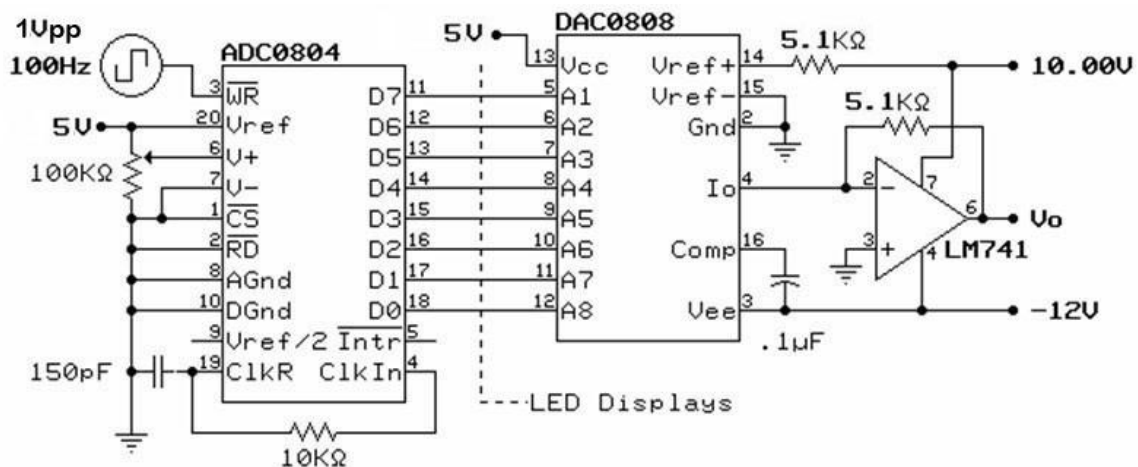
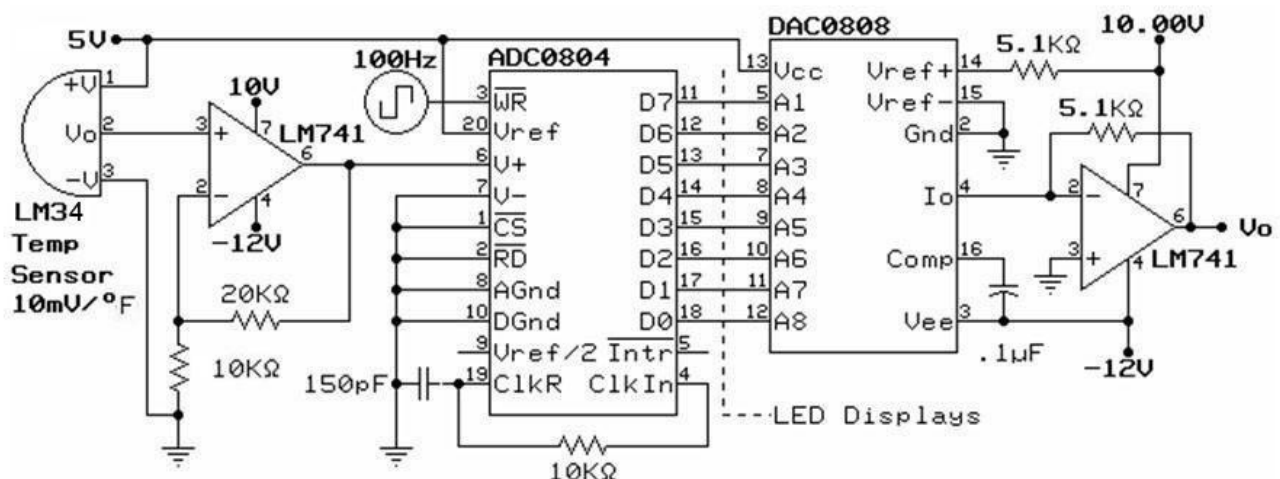

Fig. 10.1: Circuit Diagram for Digital to Analog Conversion.
Fig. 10.2: Temperature Sensing Circuit to interface DAC converter with Op-amp.
Figure10.2. illustrates the replacement of the 100K potentiometer with an LM34 temperature sensor and an operational amplifier as the voltage source for the A/D converter. The LM34 temperature sensor generates a voltage output equal to 10mV per degree Fahrenheit with an error of less than .1 degrees. Consequently, at room temperature of 72°F, the sensor will generate 200.0mV. In order to measure a voltage that is within the full-scale input of the A/D converter, an LM741 operational amplifier is configured as a non-inverting amplifier with a gain of 2, resulting in a representation of 2.00V for a temperature of 72°F. Note that the pin-out shown for the LM34 is bottom view. Note also that the inputs to the LM741 are configured for non-inverting amplification.
Construct the circuit of Figure 10.2, removing the potentiometer of Figure 10.1, and replacing it with the LM34 temperature sensor and the LM741 operational amplifier circuit. Record in the first line of Table 10.2 the (1) voltage at Pin 2 of the LM34, (2) the corresponding ambient temperature it represents, (3) the voltage at Pin 6 of the ADC0804 verifying the gain of the input amplifier, (4) the digital value at the inputs of the DAC0808, and (5) the voltage at Pin 6 of the LM741 at the output of the circuit. Wait a little while for the temperature to stabilize.